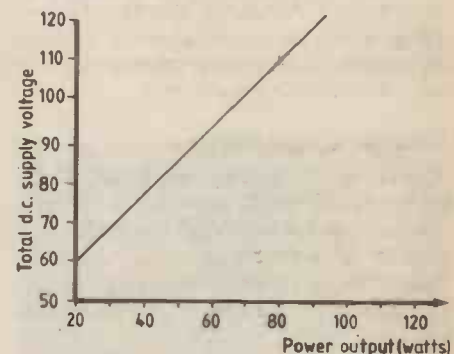

Fig. 15. Amplifier output power as function of supply voltage.
r.m.s. power output could be related to the available supply voltage in the manner shown in Fig. 15, over the range 25-100 watts. Since it had been decided, for various reasons, to use a symmetrical positive and negative supply, 63V electrolytic capacitors on each half would allow a safe working voltage, overall, of 120 volts, equivalent to a $\pm 60V$ supply. In practice, the limited regulation of a simple rectifier/capacitor power supply is likely to reduce this, on load, to some $\pm 55V$, giving an overall power output of 80 watts.